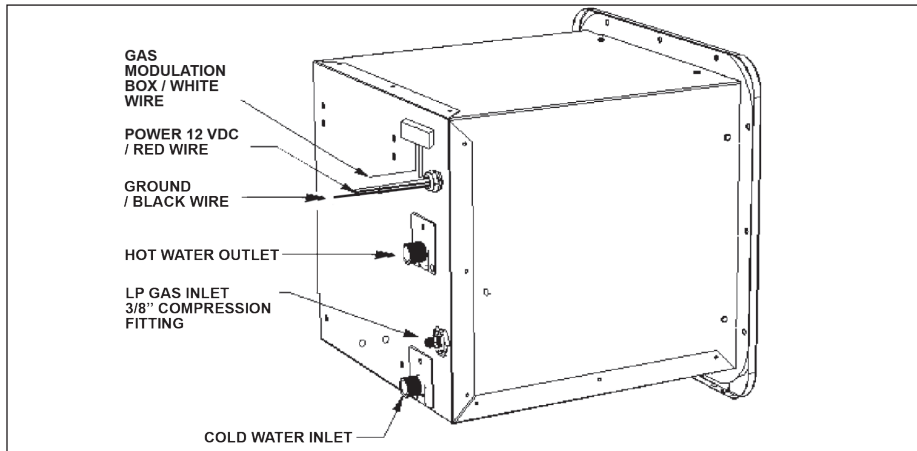

Figure 2
Partially insert the water heater into the opening and connect both Hot and Cold water lines to the appropriate ½"NPT fittings. Connections can be made using PEX swivel nut adaptors with NPS straight threads and a cone seal. The PEX swivel nuts require only hand tightening. (Figure 2, page 6).
Connect the gas to the 3/8" LP Gas compression fitting on the back of the Water Heater (Figure 2). **Use two wrenches to tighten the compression fitting to avoid damaging the unit.** Use additional caulking if needed to complete a permanent seal of the gas line with the housing.
- The length of the external wires, those wires extending beyond the strain relief from the rear of the housing (Figure 2), must **NOT** be shortened for any reason. Shortening these wires will prevent the removal of the Control Housing during servicing and/or testing.